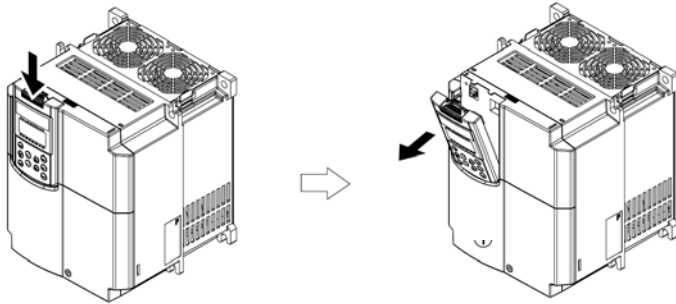
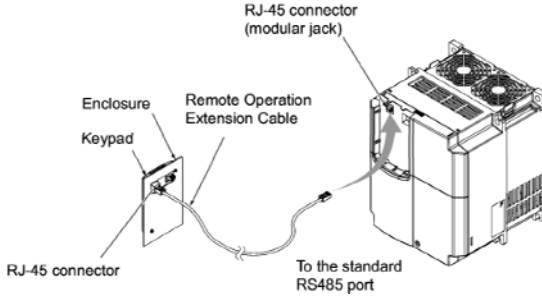

Figure 2.32 Removing a Keypad
Figure 2.34 Connecting a Keypad to the Inverter with Remote Operation Extension Cable
- ① Pull the keypad toward you while holding down the hook (pointed to by the arrow in Figure 2.32)
- ④ Remove the keypad mounted on the inverter (see Figure 2.32) and, using a Remote Operation Extension Cable, interconnect the Keypad and the Inverter (insert one end of the cable into the RS-485 port with RJ-45 connector on the Keypad and the other end into that on the inverter) (See Figure 2.34.).